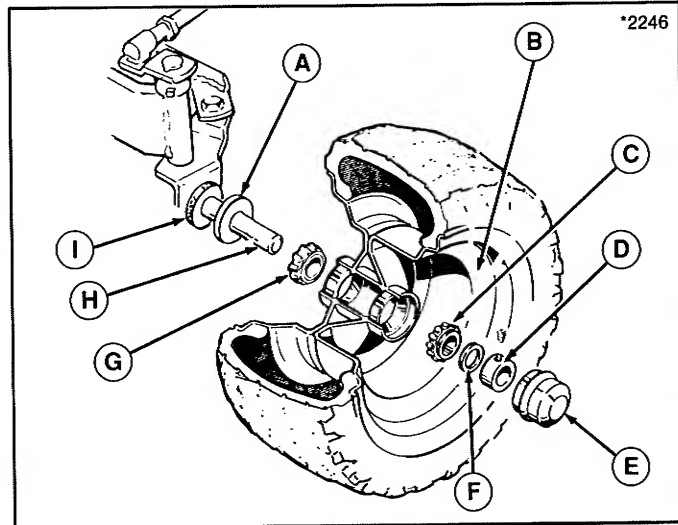

Figure 11. Repack Front Wheel Bearings
2. Pry off grease cup with a screwdriver or a claw hammer (figure 11).